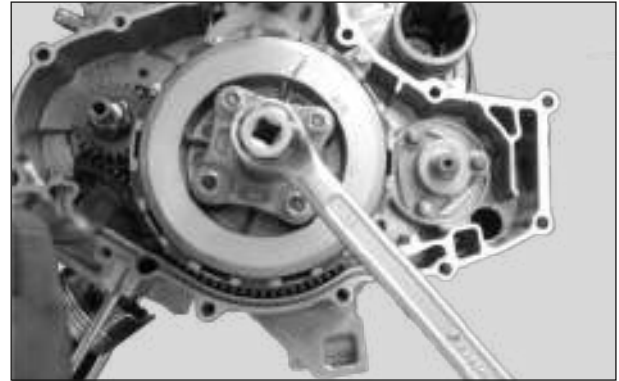

Fig. 3.20
- Loosen and remove the 1 no.M16 hexagonal flange nut from center assembly clutch using 21mm Socket spanner.(Fig. 3.20)